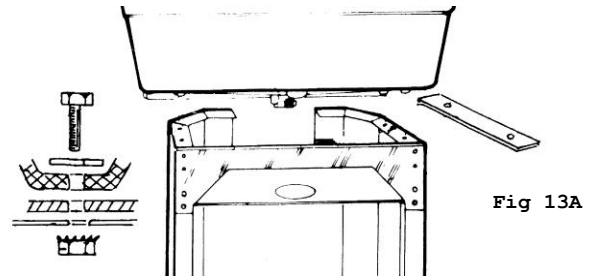

Fig 13A
Step 3: Connect the Grill Head Bottom to Aluminum Column (A-B PED) (Fig. 13A)